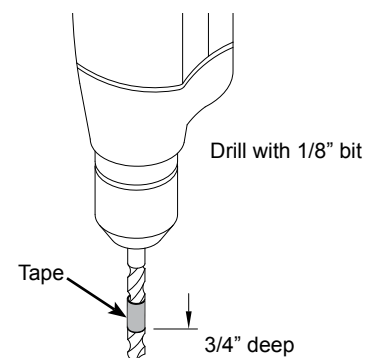

Figure 2D
3. Wrap a piece of tape around a 1/8" drill bit to mark 3/4" from the end of the bit. **Figure 2D**.